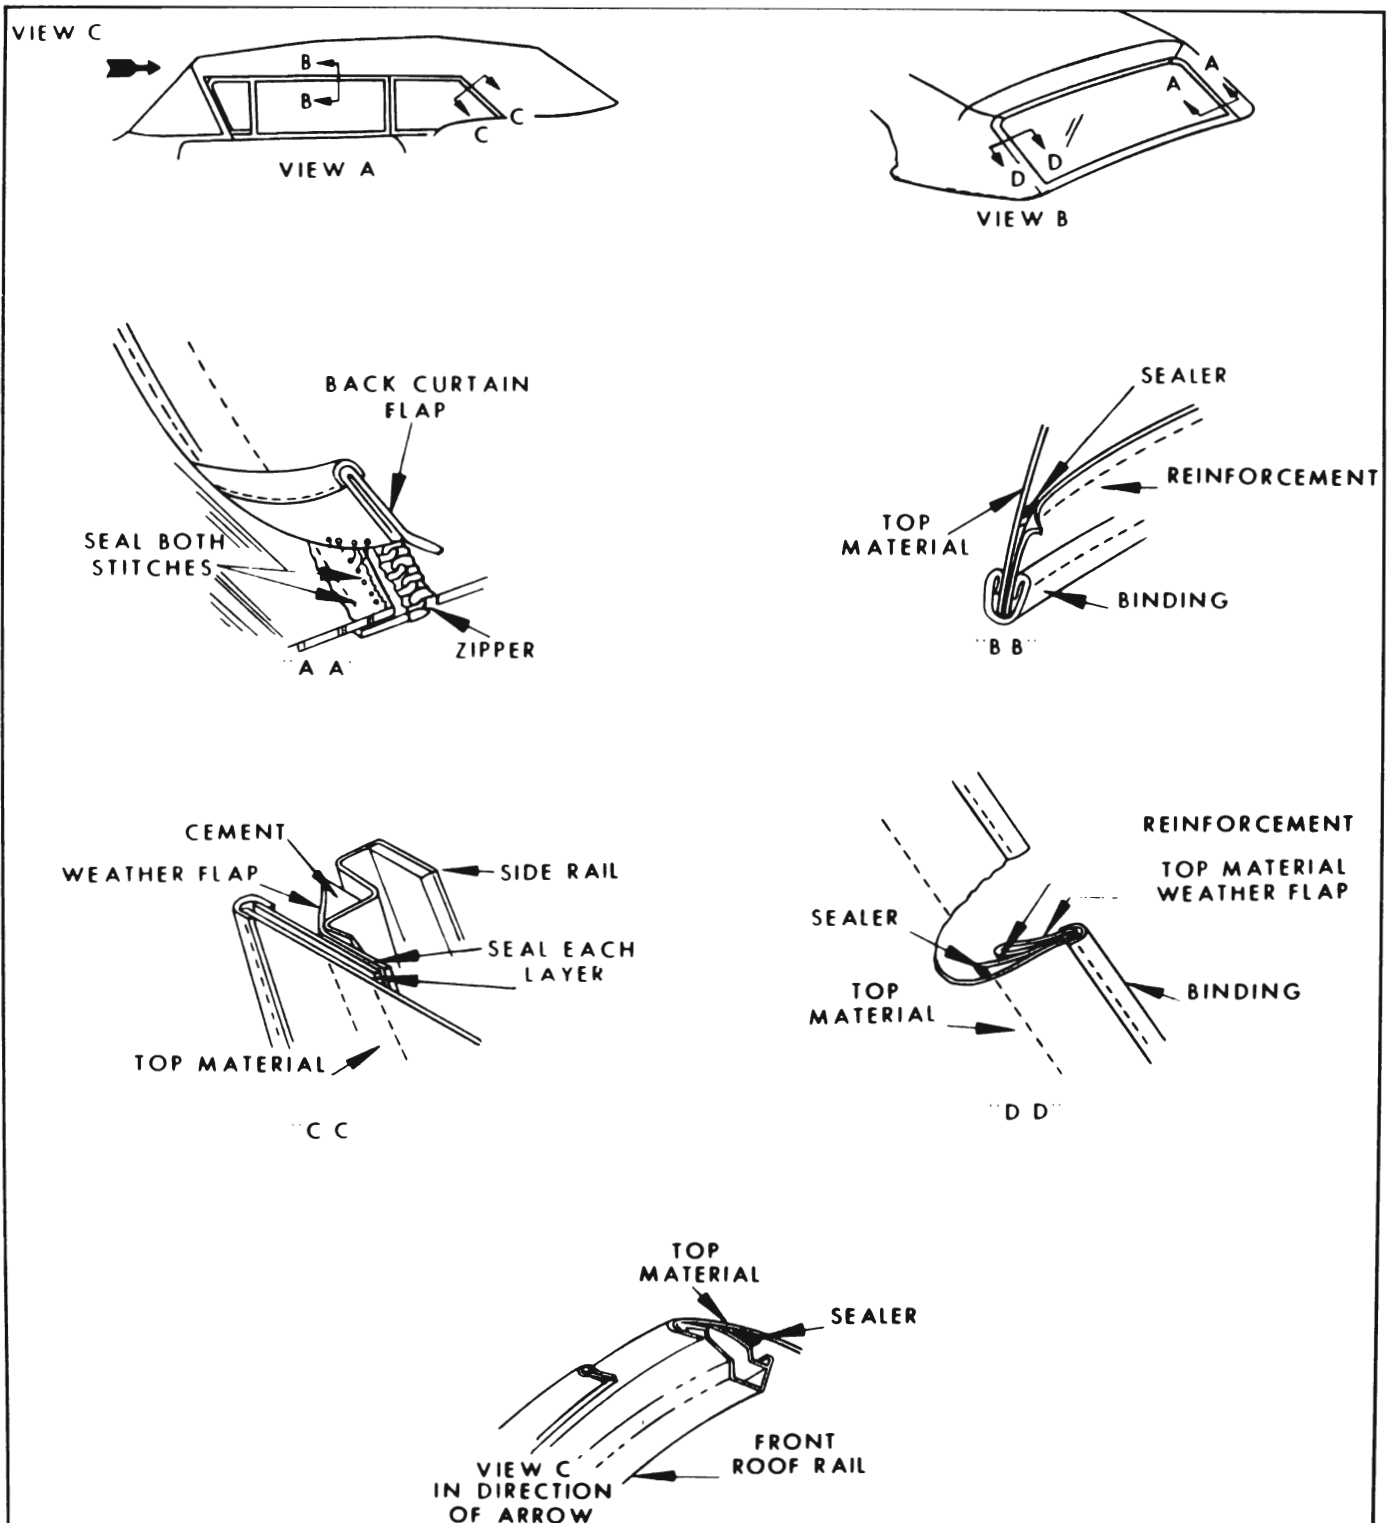
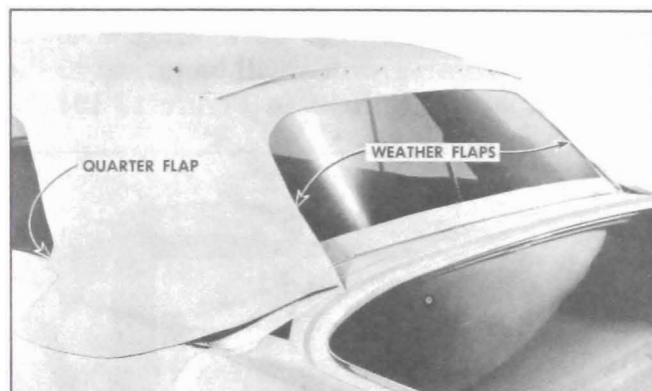

Figure 13-103—Convertible Top Sealing
Figure 13-110—Installation of Weather Flaps and Quarter Flaps
3. Place back curtain window assembly on a clean covered work-bench with the exterior (vinyl) surface of the back window valance facing upward. (The large pliable back window must be handled carefully to avoid possible damage due to scratches, abrasions, etc.) Using a hand oiler apply a bead of 3M Convertible Top Sealer to both stitches which secure the back window to the zipper and the back window valance as indicated in Section "A-A" in Figure 13-103.
12. Place replacement folding top trim assembly on a clean work-bench with the inner lining (cloth) facing upward. Pull back side section reinforcement and with a hand oiler apply a bead of 3M Convertible Top Sealer along the stitches. An adequate amount of sealer should be used so that sealer can absorb into the cloth surfaces of the top material and the reinforcement material. See Section "B-B" in Figure 13-103.
13. Apply a bead of 3M Convertible Top Sealer between the top material and the side section reinforcement in the rear quarter area and between each layer of the reinforcement as indicated in Section "C-C" in Figure 13-103.
when top is installed. See View "C" in Figure 13-103.
15. Pull back the top material weather flap reinforcement along both sides of the back window opening and apply a bead of 3M Convertible Top Sealer to the stitches as shown in Section "D-D" in Figure 13-103.
16. Position top trim on frame work and center assembly both fore and aft and side to side. Positively locate top by engaging the weather flaps at back curtain as indicated in Figure 13-110. and by cementing the quarter flaps to side roof rails as shown in Section "C-C" in Figure 13-103.
17. Stay-tack top to the rear bow; align and stay-tack the seams on outer ends of rear bow. See Figure 13-110.